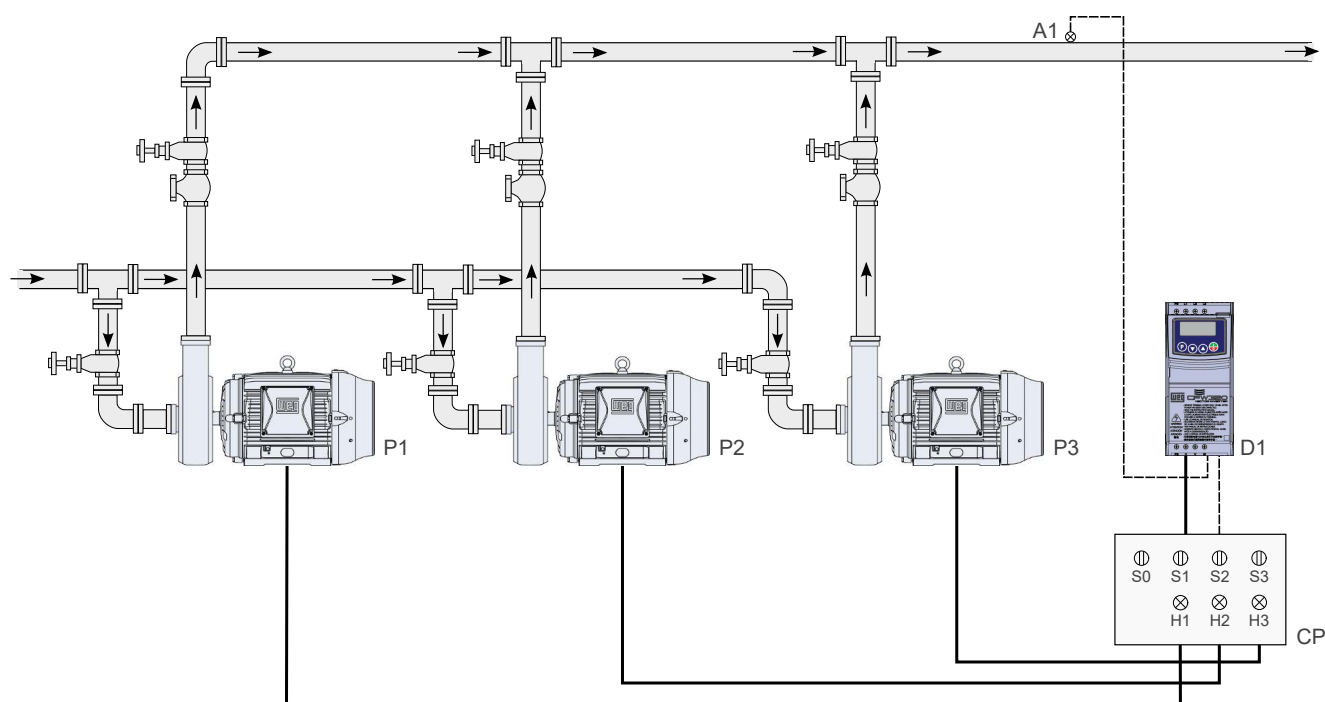
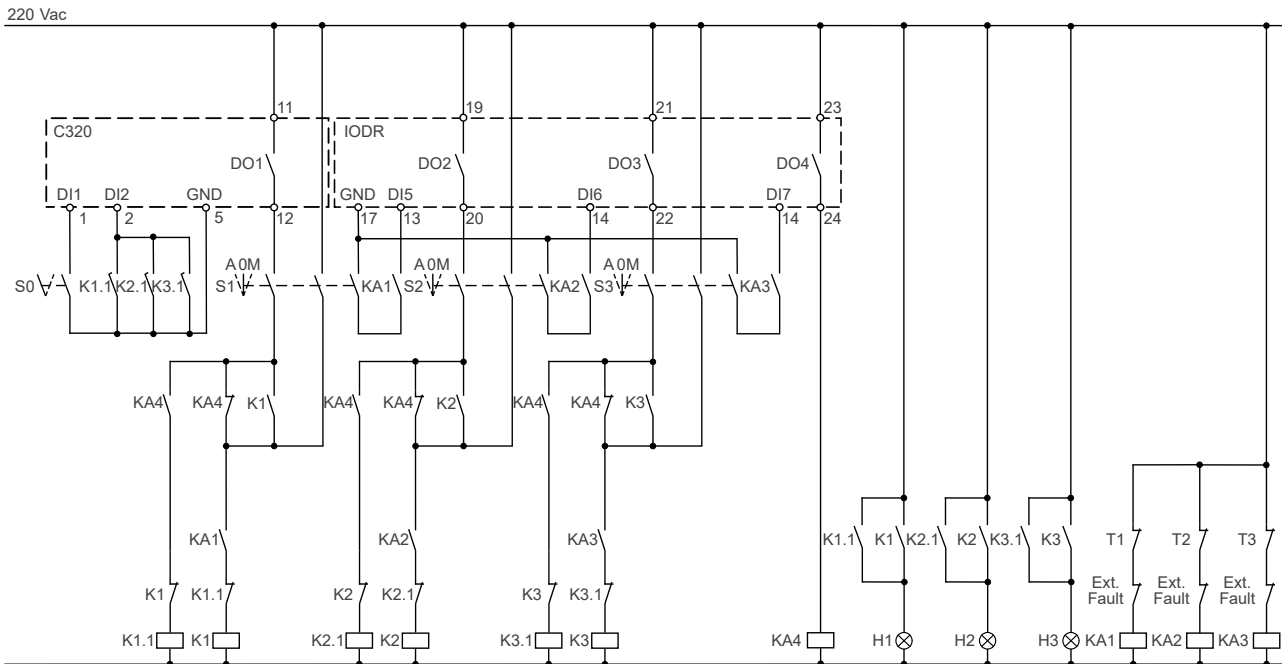

Figure 4.19: Pump Genius Multipump application with floating control type 2 and control setpoint via HMI
Figure 4.22: Command connections of the Pump Genius Multipump application with floating control type 2 and three pumps in parallel
That is, with the system turned off, the first pump to be started is connected to the inverter via the digital output command. When an additional pump is needed, the previous pump started is commuted to the main power and the next pump to be started will be driven by CFW320 inverter. The interlock that prevents two or more pumps to be connected to the inverter is electrically done as Figure 4.22 at page 4-26.
The Figure 4.19 at page 4-23 presents a typical system with three pumps and control setpoint via HMI, basically composed of:
The signals H1, H2 and H3 are not necessary for the operation of the Pump Genius Multipump with floating control type 2, because they only serve to indicate the operating condition of the pumps on the command panel (CP). In Figure 4.19 at page 4-23, the signals H1, H2 and H3 come from auxiliary contacts of contactors K1, K1.1, K2, K2.1, K3 and K3.1 which start the pumps 1, 2 and 3 as presented in Figure 4.22 at page 4-26.
The Figure 4.22 at page 4-26 presents the command connection diagram for three pumps in parallel and floating control type 2.